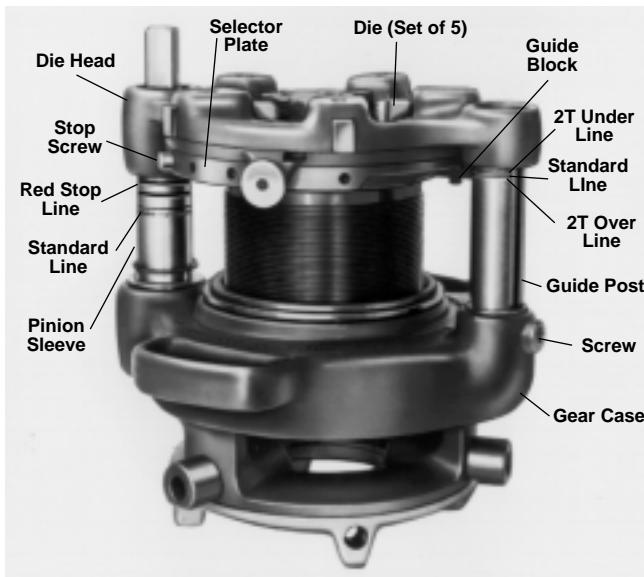

Figure 14 – No. 141 Geared Threader showing Pinion Sleeve and Guide Post Reference Lines
straight thread, or tapered slot inward for tapered thread. *Figure 14* shows guide post set to cut tapered thread.
1. Remove stop screw (*Figure 14*) from selector plate.
3. Remove worn die set (*Figure 14*) and insert new die set.
5. Release foot switch when red STOP line appears on pinion sleeve (*Figure 14*).
3. Flood dies with RIDGID Thread Cutting Oil using RIDGID 418 Oiler during threading operation to assure long die life. 141 and 161 – Release foot switch when red stop line appears on pinion sleeve. (*Figure 14*)